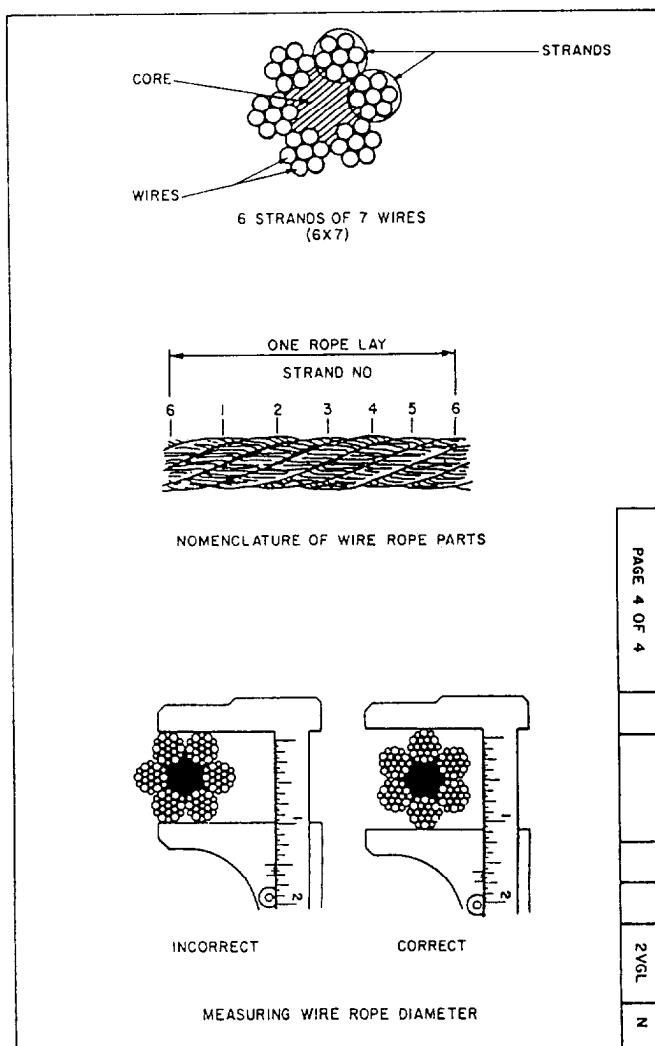

Figure 3-30.—Measuring wire-rope diameter.
Wire rope should be inspected frequently, checking for fishhooks, kinks, and worn and corroded spots. Worn spots show up as shiny flattened surfaces. To determine the wear, you must know (1) the original diameter of the wire rope, (2) the present diameter of the wire rope at the worn place, and (3) the diameter of a single wire in one of the strands of the wire rope. The original diameter of the rope is shown in the ship's allowance list or in the first lieutenant's records. The actual diameter of the rope is found by measuring it with a micrometer or vernier caliper, as shown in figure 3-30.
1. The normal rope diameter is reduced by more than the amount shown in table 3-2 for the applicable size rope. See figure 3-30 for the correct method of measuring diameter.
2. Six broken wires in one rope lay length, or three broken wires in one strand lay length. See figure 3-30 for definition of a lay length.